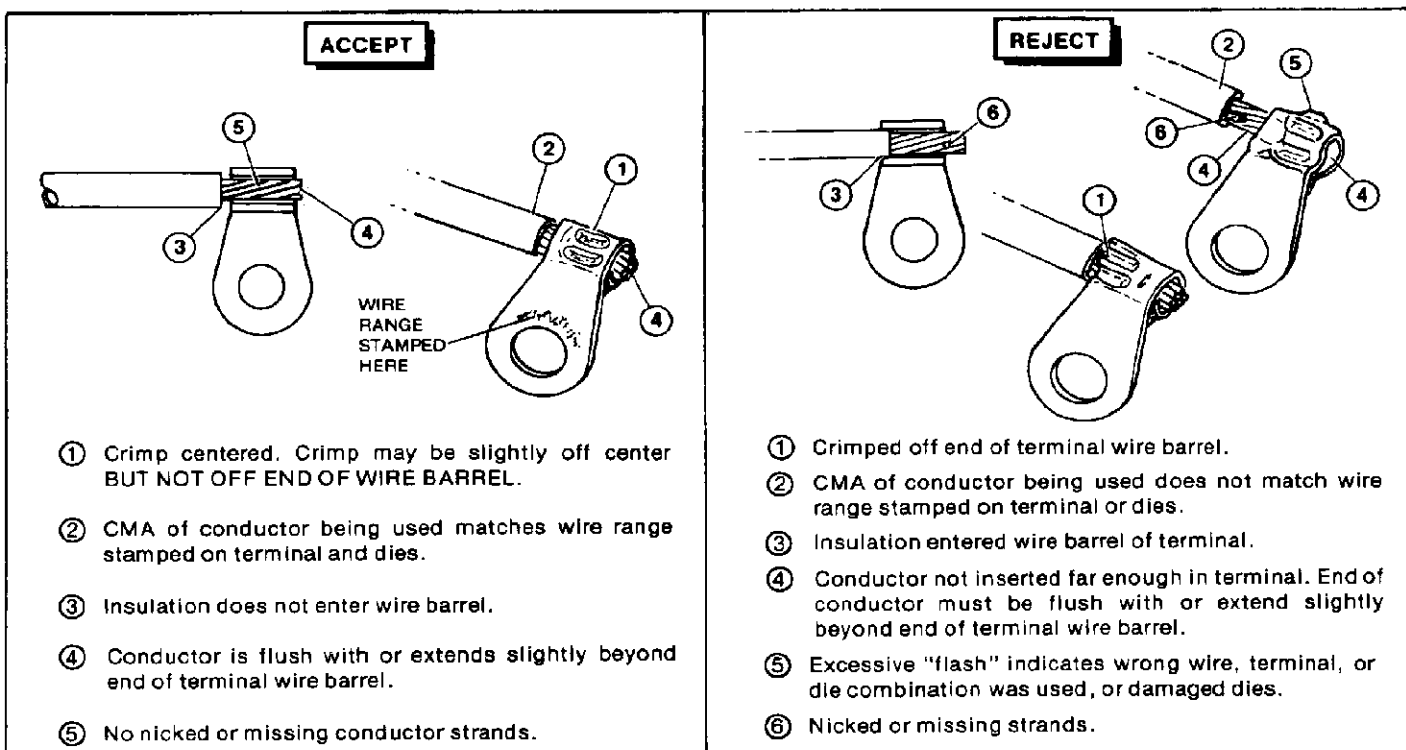

Figure 4
- (e) Refer to Section 3 and Figure 4 for crimp inspection.
Inspect crimped terminals by checking the features described in Figure 4.